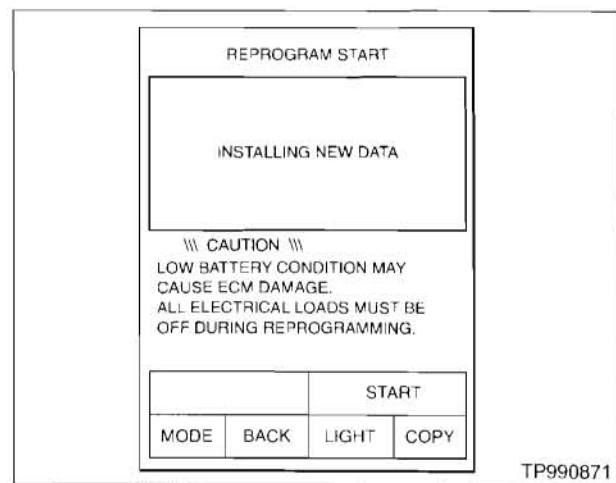

Figure A18
25. The "**REPROGRAM START**" window should appear (see Figure A18).